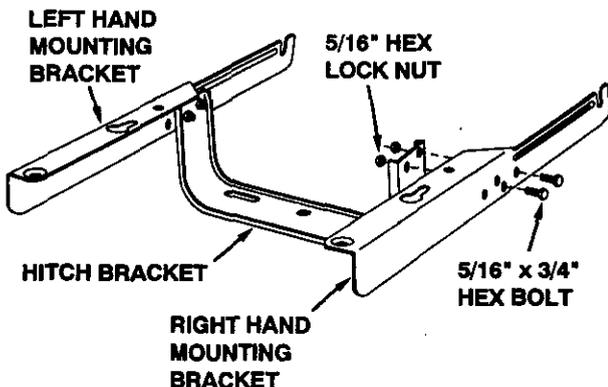

FIGURE 2
- Assemble the right hand and left hand mounting brackets to the hitch bracket using four 5/16" x 3/4" hex bolts and 5/16" hex lock nuts. **Do not tighten yet.** See figure 2.
FOR TRACTORS RESEMBLING FIGURE 2: